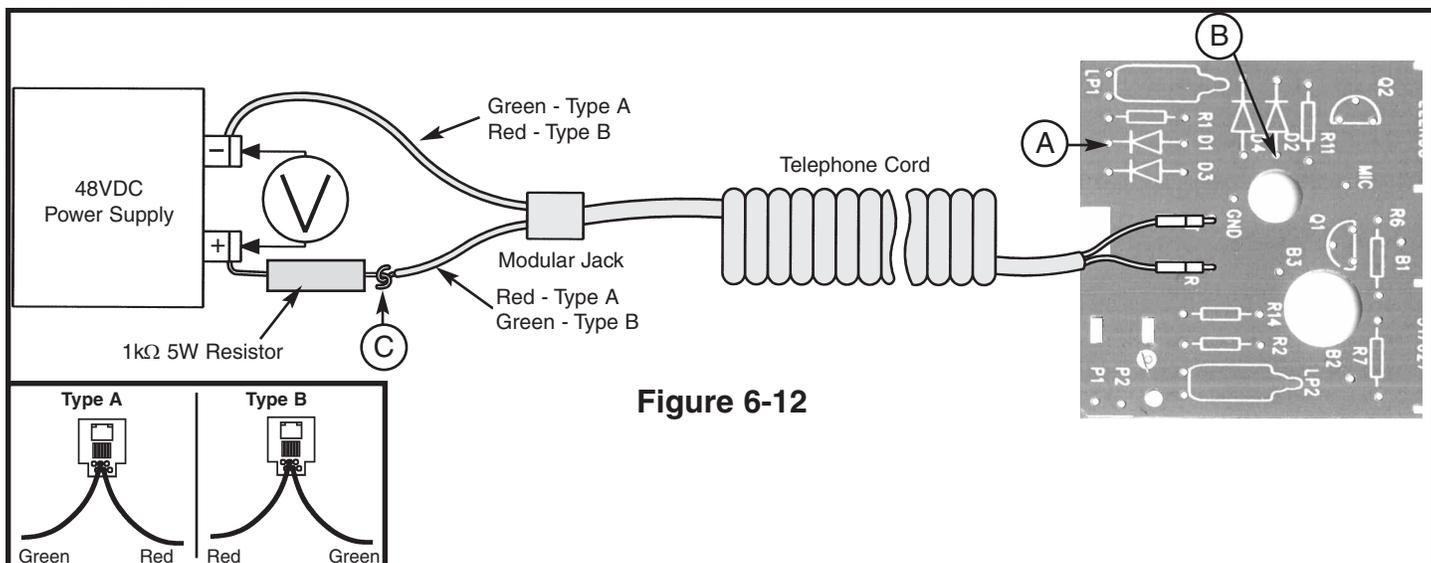

Figure 6-12
Before completing the assembly, we will want to power up and test the Transmit-Receive Section. See Figure 6-12 for these tests.
2. Solder one side of the 1k Ω 5W resistor to the wire from the modular jack as shown in figure 6-12
3. Connect the other side of the resistor and the other wire from the modular jack to the 48VDC power supply as shown in Figure 6-12.
5. Set the voltmeter to read 48VDC and connect as shown in the Figure 6-12. Position the PC board so that the telephone is off the hook (hook switch not depressed). Turn the power supply ON and adjust it for 48VDC on the meter.
7. To obtain the voltage across the diode bridge, connect the positive voltmeter lead to the cathode of D1 (point A in Figure 6-12) and the negative voltmeter lead to the anode of D2 (point B in the figure). Record the Output Voltage: _____
13. To measure the output voltage of the diode bridge, connect the positive voltmeter lead to the cathode of D1 (point A in Figure 6-12) and the negative voltmeter lead to the anode of D2 (point B in Figure 6-12). Record the Output Voltage: _____